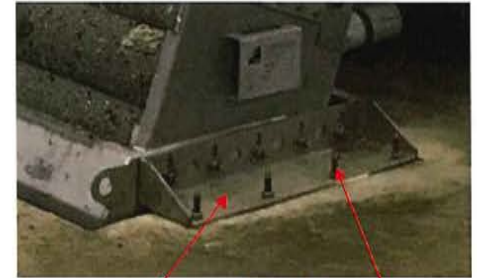

Fig. 2-5
6. With the machine still supported in its final position, install anchors at mounting brackets. (See Fig 2-5)